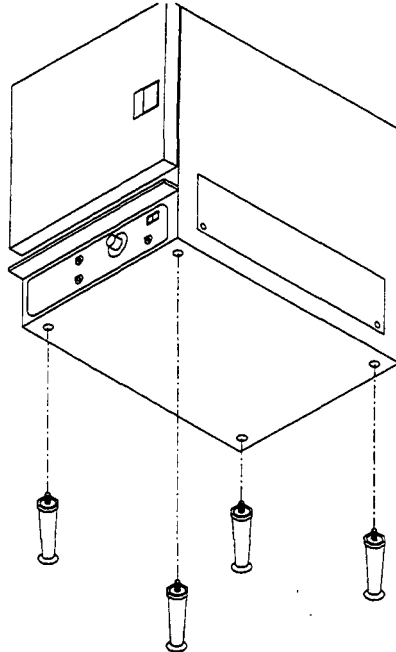

Figure 1
A Field Connection Terminal Block is located at the rear of the unit, lower left hand side, behind a small rectangular cover which is secured with (1) screw. Adjacent to the cover, a hole is provided for a 3/4" conduit fitting (solid or flex). Refer to Figure 1.
3. If unit is to be installed on legs, locate legs and install as shown on drawing. (See Figure 1.)